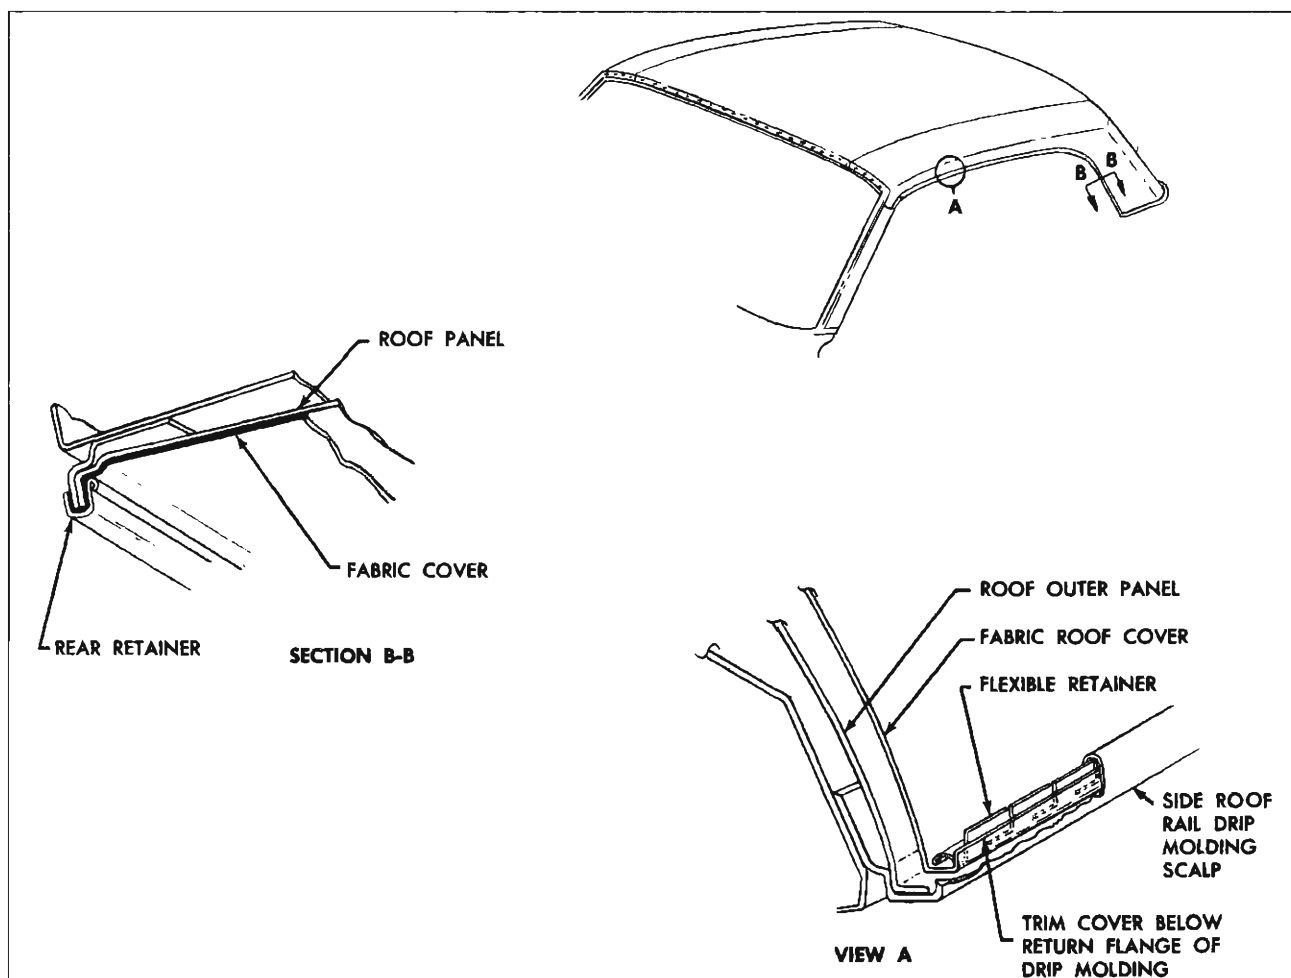
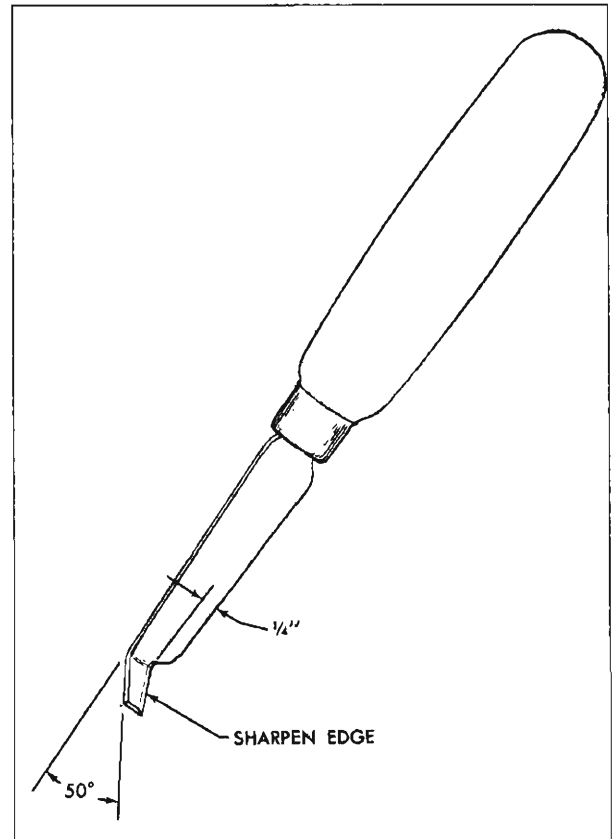

Fig. 103—Body Fabric Roof Cover
Fig. 107—Fabric Cover Trimming Knife
4. Removal of flexible retainers securing fabric cover inside right and left drip moldings can best be completed by inserting tip of screwdriver or similar tool under forward end of retainers. (See View "A" in fig. 103.) Working from front to rear of body, disengage fingers of retainers from side roof rail drip molding flanges. Continue above operation until retainers can be removed from body.
17. Install screws (or drive nails) at belt line of rear quarter area. (fig. 103).
19. Using fabric cover trimming tool (J-21092), or suitable small knife, trim fabric cover just under lip of roof drip molding. (View "A", fig. 103). A tool may be fabricated to trim material along side roof rail moldings as illustrated in Figure 107.
21. Install flexible retainer starting at radius area above rear quarter window. Working toward rear of body, if necessary, carefully drive retainer downward with a blunt-edged tool. Working toward front of body, install remaining portion of retainer. Retainer fingers should be seated in flange of drip molding. (View "A", fig. 103).